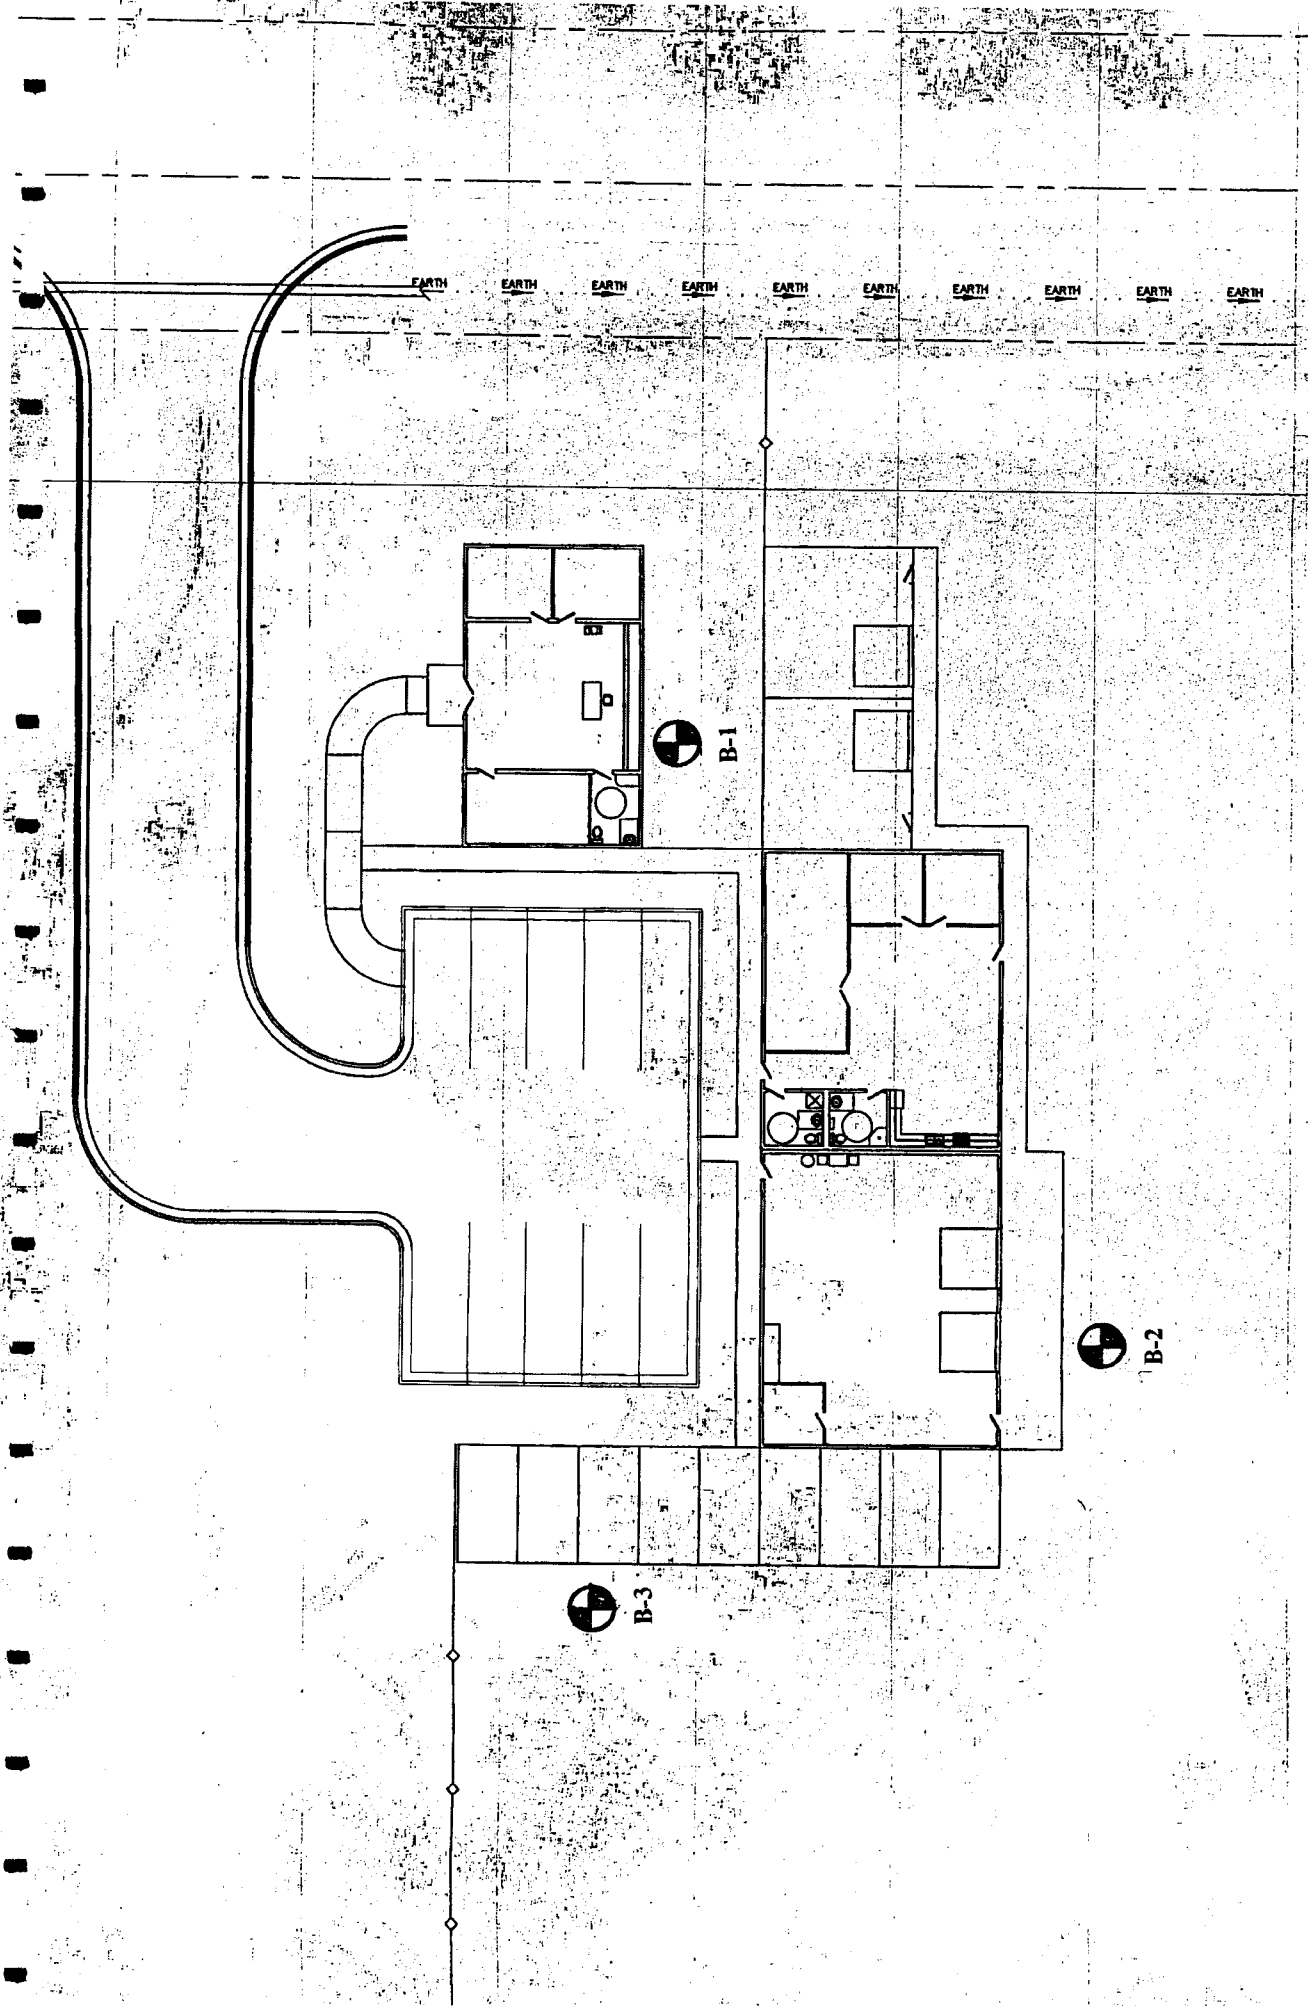

FIGURE 2
- Figure 2 – Site Plan
The subsurface investigation consisted of three borings, drilled on January 13, 2009. The locations of the borings are shown on Figure 2 – Site Plan. The borings were located in the field relative to existing site features. Typed boring logs are included in Appendix A. Samples of the subsurface soils were collected during Standard Penetration Testing (SPT) and using bulk sampling methods at the locations shown on the logs.